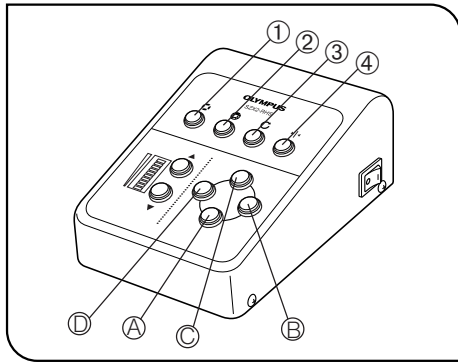

Fig. 8
2 Using the Control Buttons of the Hand Switch (Figs. 8 & 9)
- ④ Press to move the illuminating part in the counterclockwise direction.
- ④-④ Press one of the buttons to select the desired illuminating part.
(See Fig. 8, 9 for the correspondence between select button ④ to ④ and illuminating parts ④ to ④.)